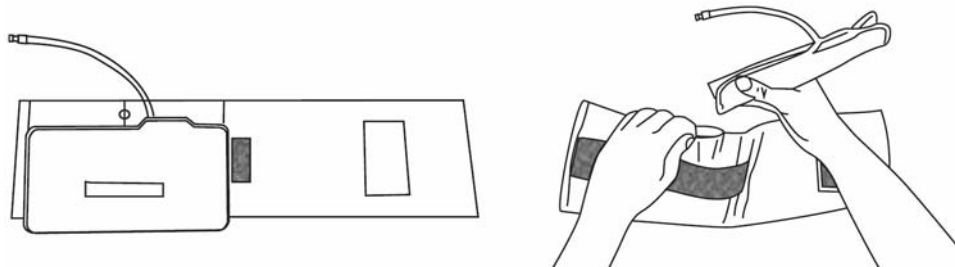

FIGURE 4-1 Cuffs with Bladders
2. Roll the bladder lengthwise and insert it into the large opening. See the FIGURE 4-1.